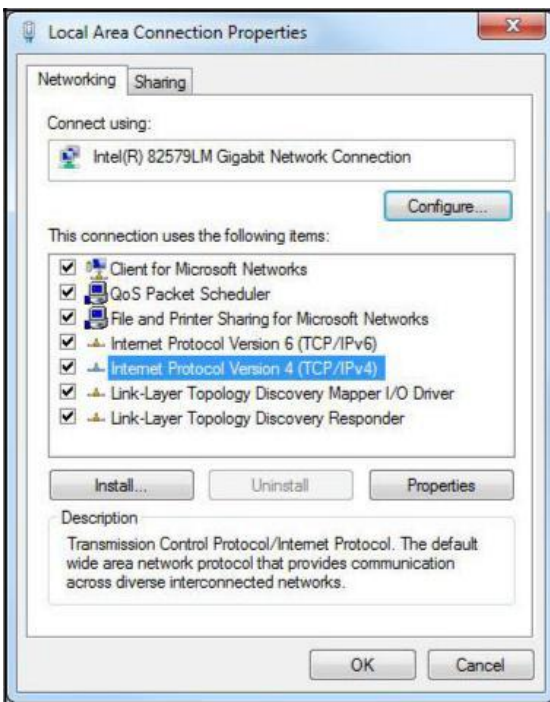

Figure 5. Local Area Connection Properties Dialog Box
4. Highlight **Internet Protocol Version 4 (TCP/IPv4)** as shown in Figure 5, and click **Properties**. The properties dialog box appears.